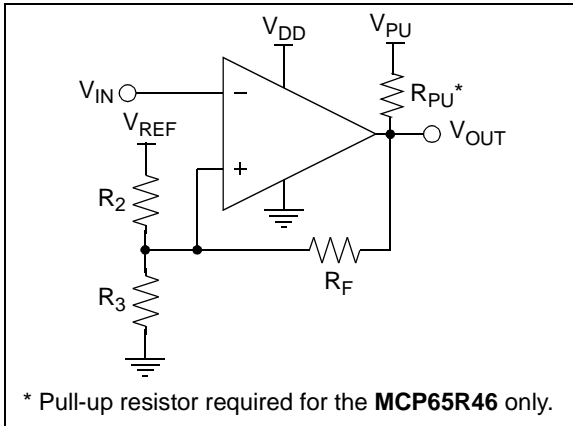
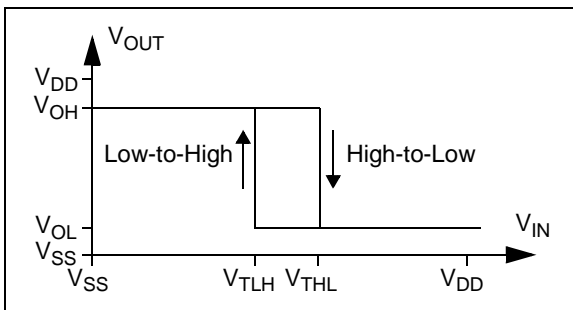
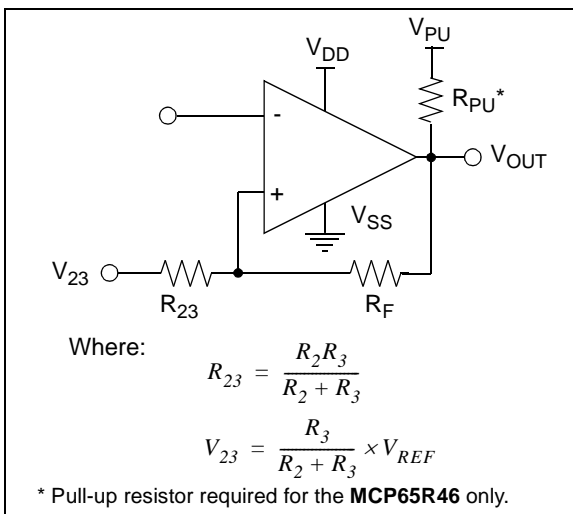

FIGURE 4-6: Inverting Circuit with Hysteresis.
FIGURE 4-7: Hysteresis Diagram for the Inverting Circuit.
FIGURE 4-8: Thevenin Equivalent Circuit.
Figure 4-6 shows an inverting circuit for single-supply using three resistors. The resulting hysteresis diagram is shown in Figure 4-7.
In order to determine the trip voltages (V_{THL} and V_{TLH}) for the circuit shown in Figure 4-6, R_2 and R_3 can be simplified to the Thevenin equivalent circuit with respect to V_{REF} as shown in Figure 4-8:
1. Inverting Configuration (Figures 4-6 and 4-9):